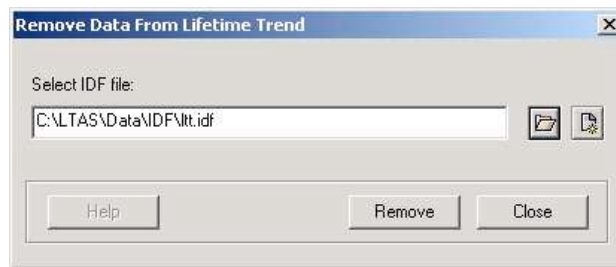

Figure 61: LTT Remove Mnemonics Screen
- Type the name of an existing IDF or click the file folder icon  to select an Input Definition File (IDF) on the LTT Remove Mnemonics screen (*see Figure 61*).